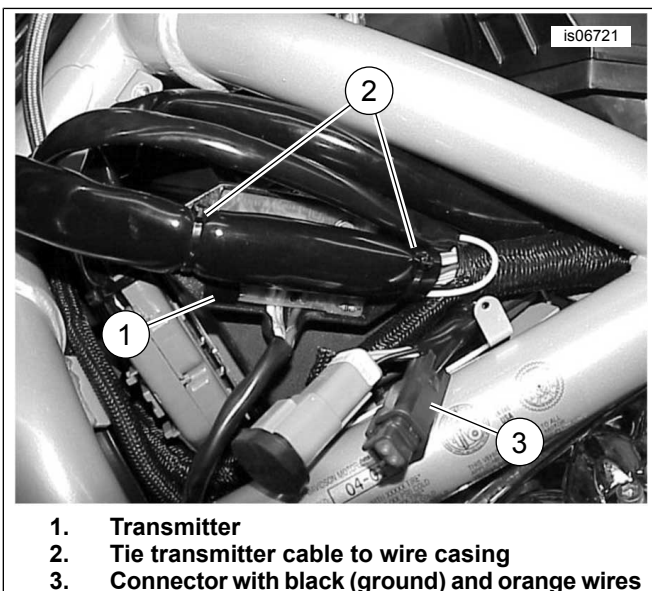

Figure 12. Transmitter Mounting (2002-2003 V-Rod Only)
- See Figure 12. Use cable ties to fasten the transmitter (1) to the motorcycle wire casing (2) as shown. Proceed to the **Harness Connection** section.